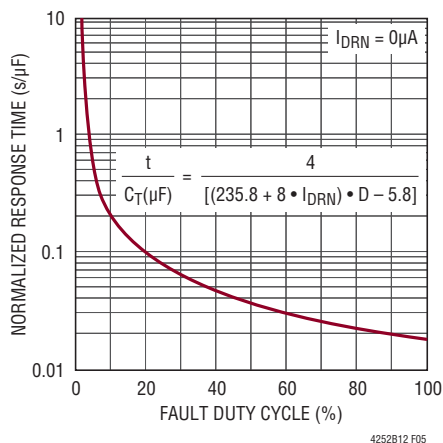

Figure 5. Circuit-Breaker Response Time
2.5% or more will eventually trip the circuit breaker and shut down the LTC4252. Figure 5 shows the circuit breaker response time in seconds normalized to $1\mu\text{F}$ for $I_{\text{DRN}} = 0\mu\text{A}$. The asymmetric charging and discharging of C_T is a fair gauge of MOSFET heating.